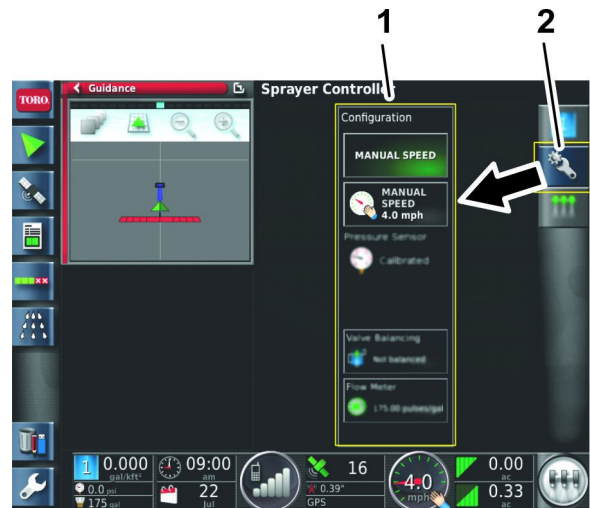

Figure 178
5. Press the configuration icon in the sprayer controller submenu to display to configuration menu (Figure 178).